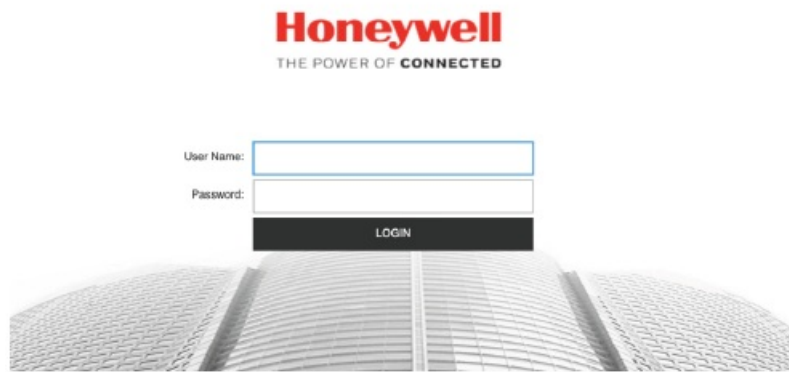

Fig. 3.1
- With your IE browser open, enter the camera's IP address in the URL field. See Fig. 3.1.